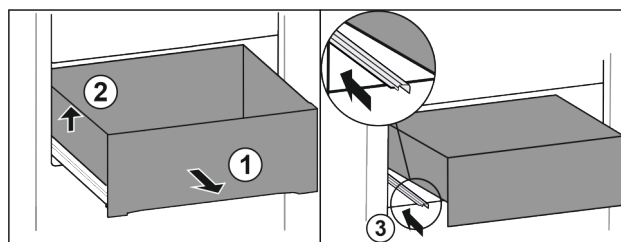

Fig. 13
- ▶ Pull drawer out completely Fig. 13 (1).
- ▶ Lift drawer on the left Fig. 13 (2).
- ▶ Slide in left rail Fig. 13 (3).